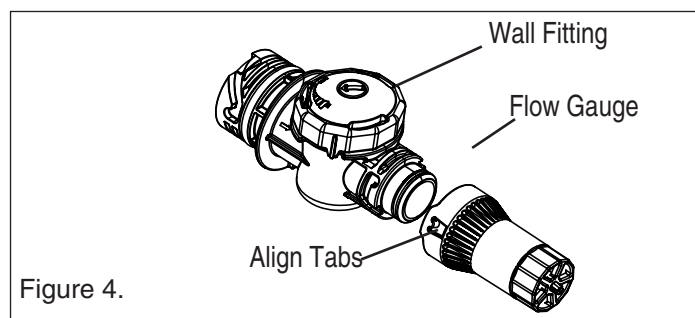
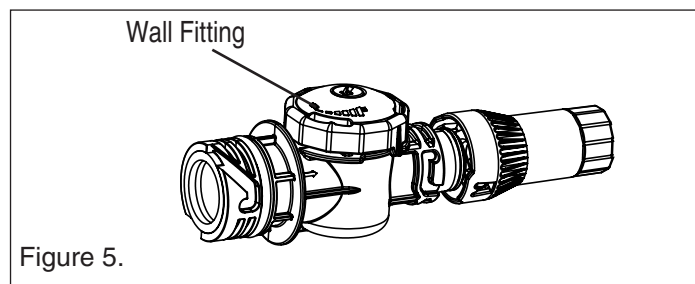

Figure 4.
Figure 5.
1. Attach the flow gauge to the wall fitting by aligning the two tabs on the flow gauge with the grooves in the wall fitting. **See figure 4.** Push and turn the flow gauge clockwise until it stops, then slightly pull it out away from the wall. Be sure the flow gauge is securely locked in place by turning it counterclockwise while slightly pulling out on the flow gauge. **See figure 5.**